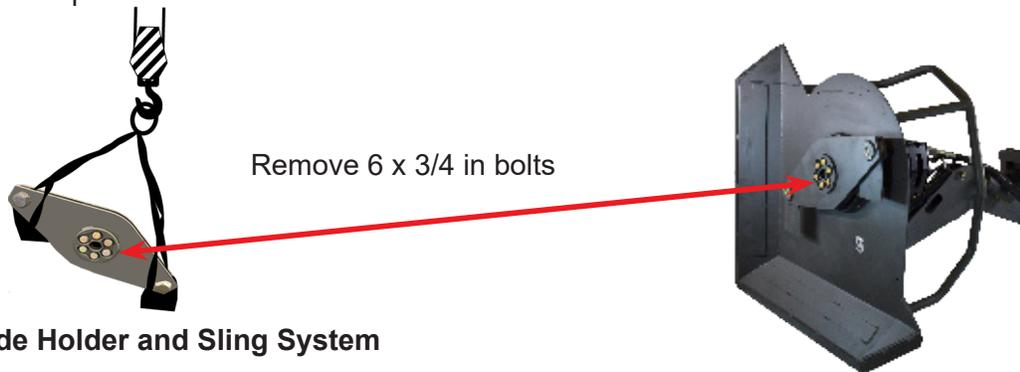

Figure 4.4a Blade Holder and Sling System
2. Position the cutter deck in a vertical position on the ground to gain access to the blade holder (Figure 4.4a below)